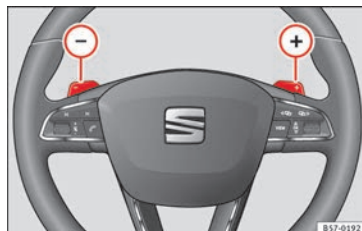

Fig. 183 Steering wheel: automatic gearbox levers
- Press the gearshift paddle  to select a higher gear »» **Fig. 183**.